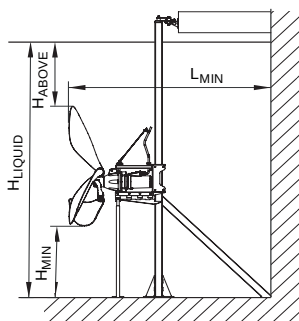

Fig. 6 Positioning sketch for flowmakers
- The distance between the propeller tip and the bottom of the tank, H_{MIN} in fig. 6, should be 40 to 50 cm.
- The distance from the propeller tip to the liquid surface, H_{ABOVE} in fig. 6, should be at least 0.75 times the propeller diameter.
- The distance between the propeller tip and the wall behind the flowmaker, L_{MIN} in fig. 6, must be at least twice the propeller diameter.